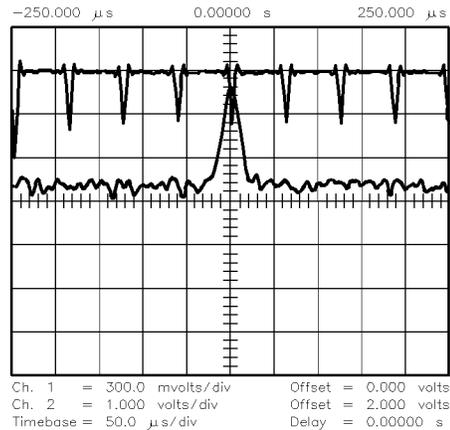

Figure 2-3. Video Signal on the Oscilloscope
5. Tune the spectrum analyzer center frequency to find and center the video signal on the oscilloscope. (See Figure 2-3.) Align the video input with the trigger output at center screen.